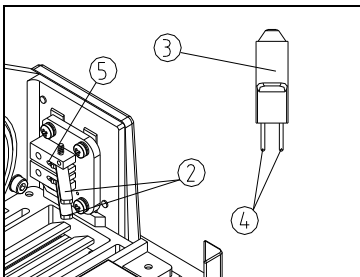

Fig. 3
(2) Take off lock chip ② for the lamp, and hold the lamp with glove or clean cloth. Then put the lamp feet ④ into the slot ⑤. Make sure the lamp should be vertical. (Fig.3)
(3) Put on lock chip ② and lamp house and lock the screw ①.